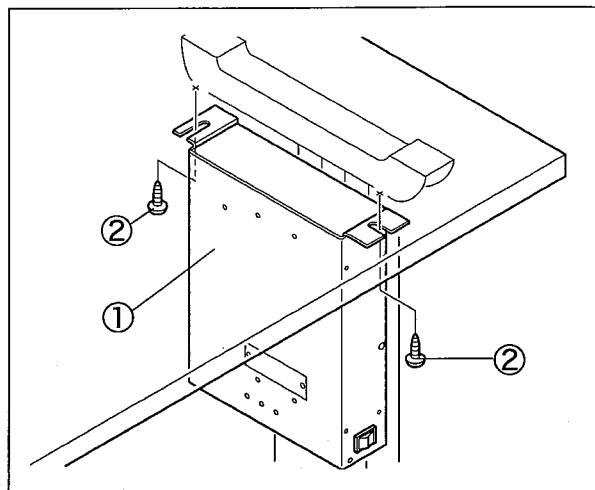

Fig. 2-4
1. Install it onto the bottom of the table with wood screws② directly. (Fig. 2-4)